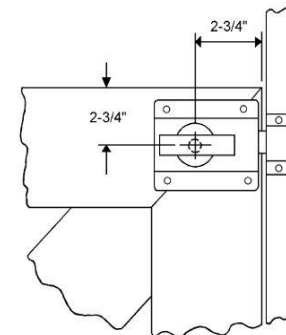

FIG. 4
8. Drill a 5/8" dia. hole through lower door panel as shown Fig. 4. Using door latch as template, drill four 7/32" diameter holes through metal trim pieces on outside of panel only. Install door latch with four #8x 1" flat head screws.
Install inside handle using four #8 x 1" head screws. Mount strike plate to door jamb as shown in Fig. 4 using #8 x 1" flat head screws. A predrilled hole approx. 3/32" is recommended.